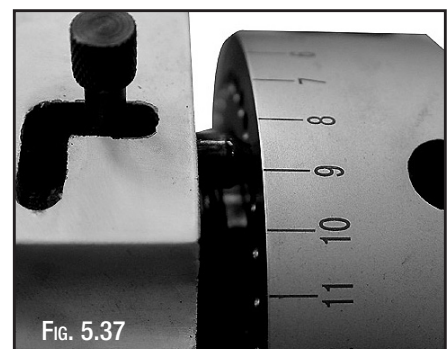

FIG. 5.37
3. There are two series of matching graduations with holes around the outside in the cylinder. If the drill has two-fluted edges, you must find the equal positions of the opposite sides of the cylinder. For example, if you adjust the position to the "6" on one side, then you must rotate the cylinder to the other "6" of the other side. This will grind each side evenly and grind the cutting edge the same on both flutes, (Fig. 5.37)